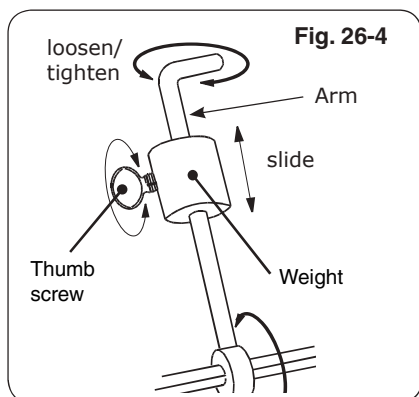
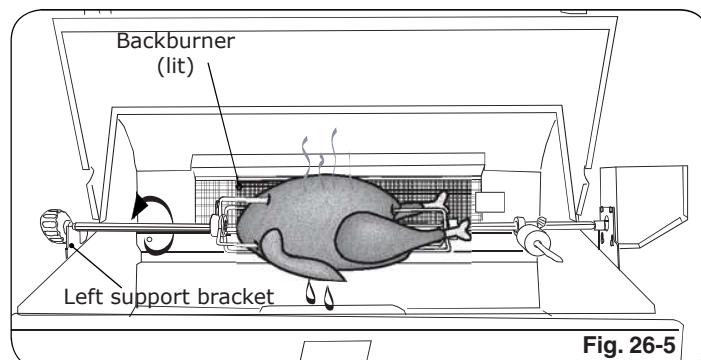

Fig. 26-4
Fig. 26-5
7. Slide the counterbalance weight up or down the arm until the rod rotates most evenly then tighten thumb screw (Fig. 26-4 and Fig. 26-5).